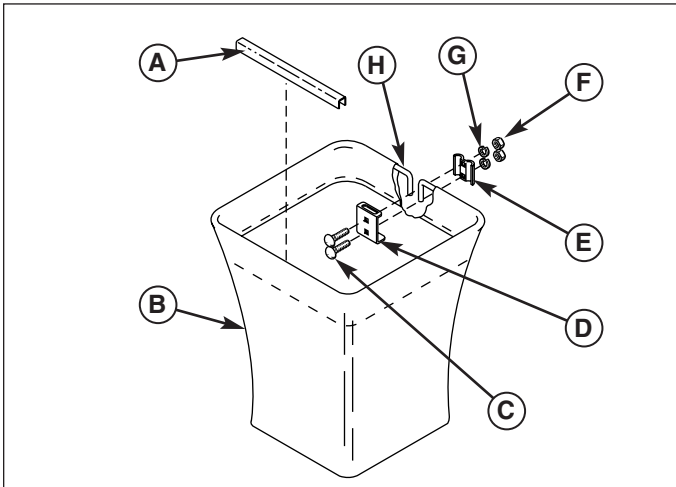

Figure 1. Assemble Catcher Bags
1. See Figure 1. Insert the wire hoop (H) through the cloth bag (B).
2. Install the clamp (E) and hanger bracket (D). Secure with two 5/16-18 x 3/4 carriage bolts (C), lockwashers (G) and nuts (F).